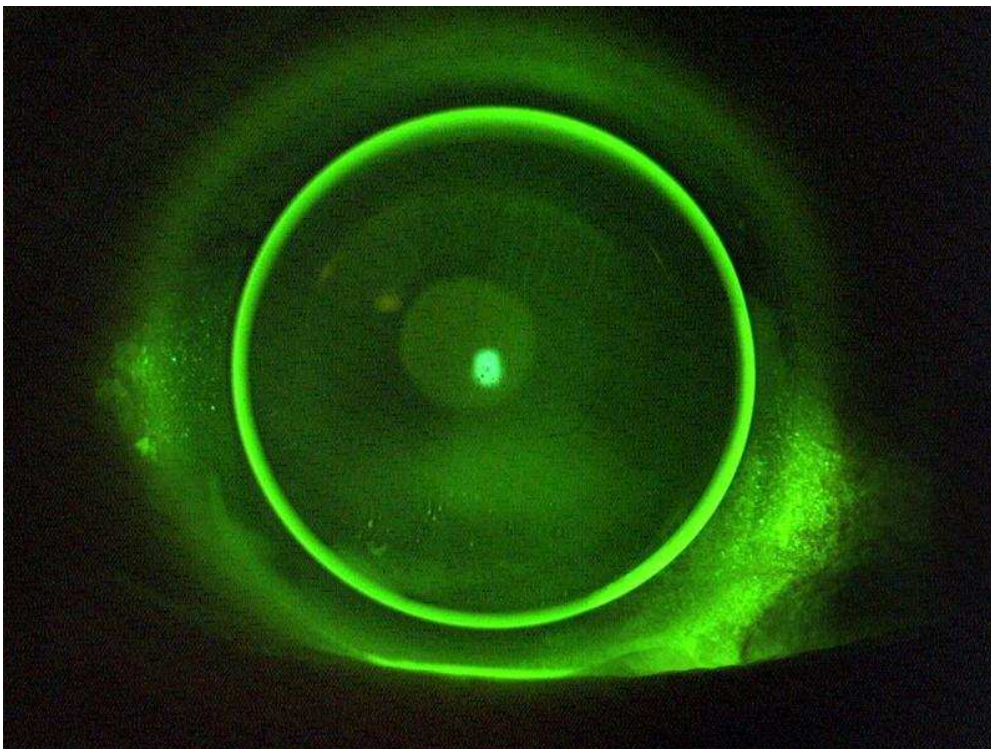

Figure 2: 3- and 9 o'clock staining with the current (R)GP lens, diameter 9.80mm
Her current (R)GP lenses were in a rotationally symmetrical, aspherical design with an overall diameter of 9.80mm. The chosen material was the high-Dk gas permeable Contamac Optimum Extreme. Fluorescein application showed 3 and 9 o'clock staining, more present in the temporal than in the nasal region. The staining affected the peripheral cornea as well as the conjunctiva. The corneal staining location correlated perfectly with the increased focal redness on the conjunctiva. The contact lens fit exhibited good movement and acceptable centration. From a fitting point of view, no improvement was possible regarding contact lens geometry (Figure 2).